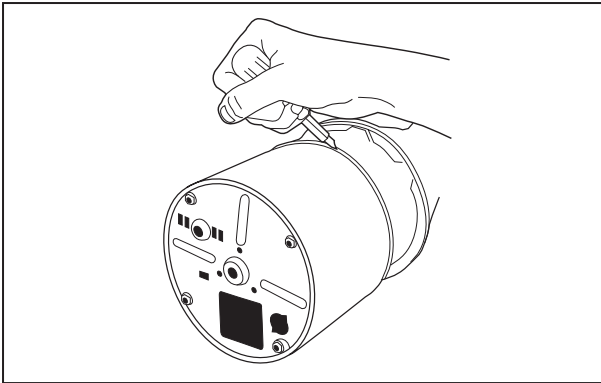

Figure 4.14
3. Place disposer on side and tap upper end bell gently with rawhide mallet to slightly separate from stator assembly, then insert flat blade screwdriver blade and twist to fully separate (see Figure 4.14). Gently lift upper end bell from stator assembly, being careful not to damage stator windings.